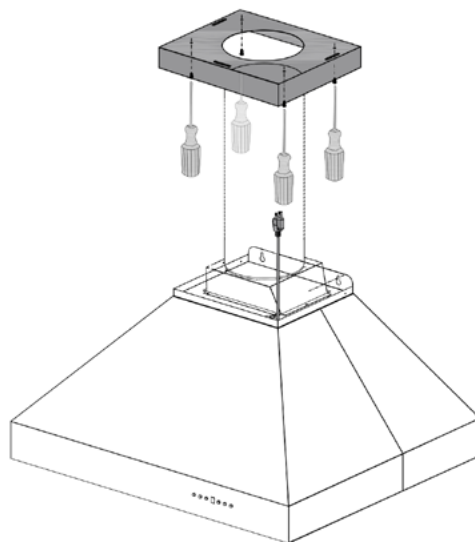

Figure 1
1. Install the flat crown molding bracket. Measure to the ceiling above the range top where the hood will be installed. Ensure the crown molding bracket will be secured to solid wood backing; 2x4 beams installed in the roof joists work best. Pre-mark holes and then secure the bracket to the ceiling using 4 screws/washers (C/D). You may fasten the screws into anchors (A) if desired for extra stability. *Figure 1*
2. Mount the top chimney mounting bracket onto the crown molding bracket using 4 screws/washers (C/D). **NOTE:** Like the island hood, the front and back sides of the designer chimney bracket are slightly longer than the sides, so install accordingly. *Figure 1*